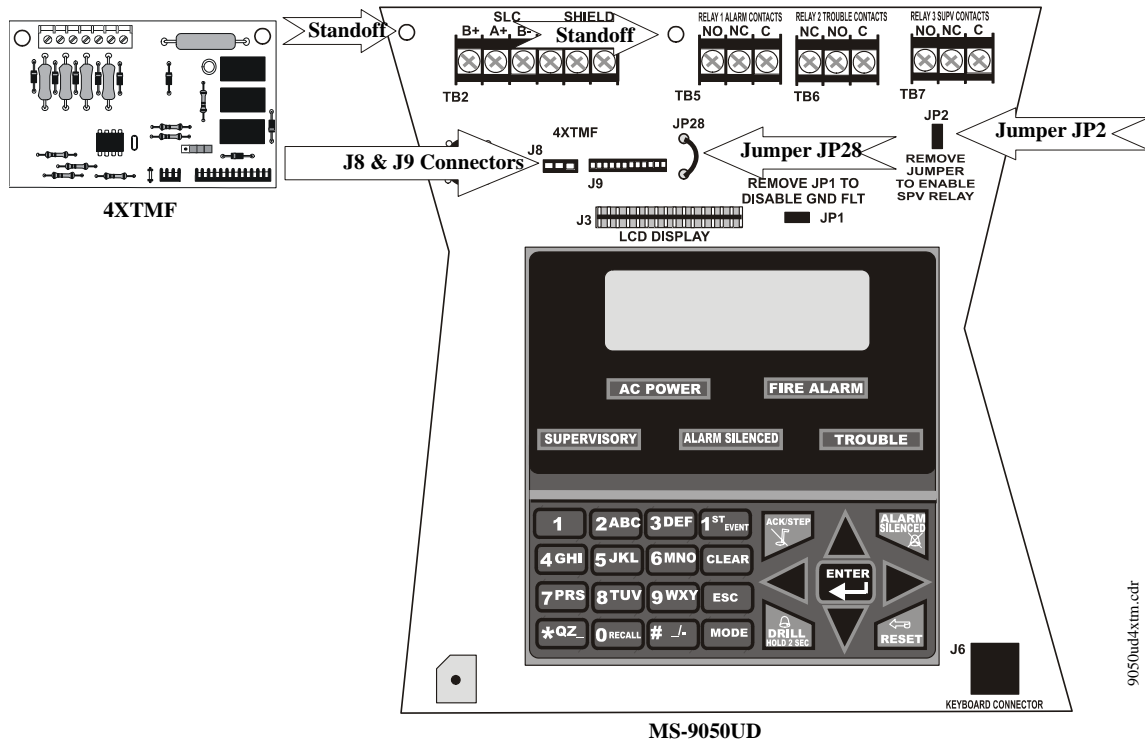

Figure 2.11 4XTMF Connectors to MS-9050UD Connectors
3. Remove two screws securing main circuit board to mounting plate and install two standoffs for securing 4XTMF module to main circuit board. Refer to Figure 2.11 for standoff locations on main circuit board